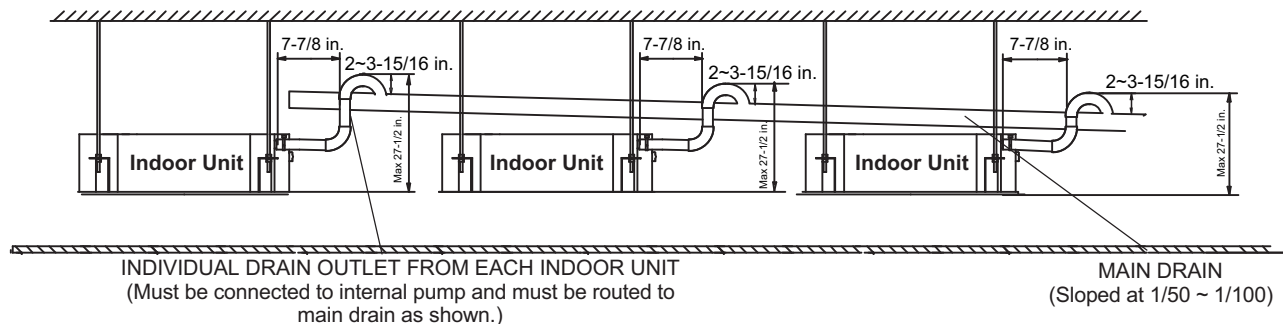

Fig. 16 — Using a Main Drain to Serve Multiple Indoor Units with Internal Condensate Pumps
- Condensate piping should slope downward in the direction of condensate flow, with a minimum gradient of 1 in. per 100 inches. See Fig. 16.